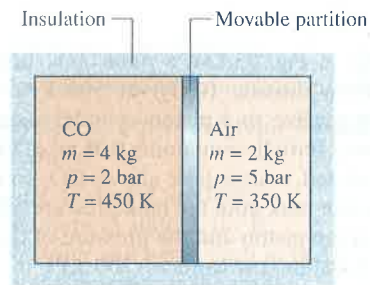

Fig. P3.131
- 3.131** Two kg of air, initially at 5 bar, 350 K and 4 kg of carbon monoxide (CO) initially at 2 bar, 450 K are confined to opposite sides of a rigid, well-insulated container by a partition, as shown in Fig. P3.131. The partition is free to move and allows conduction from one gas to the other without energy storage in the partition itself. The air and CO each behave as ideal gases with constant specific heat ratio, $k = 1.395$. Determine at equilibrium (a) the temperature, in K, (b) the pressure, in bar, and (c) the volume occupied by each gas, in m³.